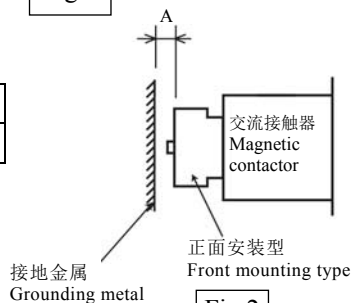

Fig.2
4. 安装预留位置 (Fig. 2)
- The installation tips a unit diagonally from the ① direction and pushes it to the main body, and please confirm that hook 1 of the unit hangs it on the installation ditch of the main body and moves it after a figure to the ② direction, and hook 2 is attached to the main body well.
- Please take it off after the disassembly moves to a course of ③ in the state that pushed hook 2 of the unit with a finger, and canceling a lock state.
4. Mounting space (Fig. 2)